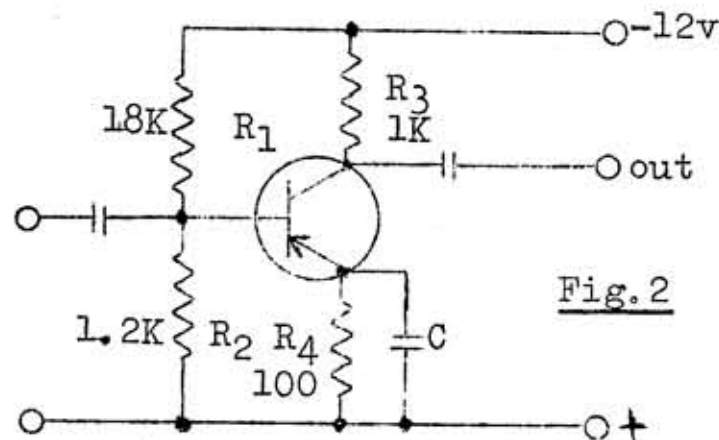

Fig. 2
3) Power. The power actually dissipated by the stipulated transistor can ordinarily be found or estimated from circuit values. A substitute should be able to carry this power with perhaps a safety factor of 2 (or more! Have you ever tried to put 15W on an AD140 using nominal heat sinks?). Operating power may usually be roughly estimated in an RC coupled amplifier stage by supposing on the average, that the transistor has across it half the supply voltage; then the current can be deduced from the voltage across the collector load, (ref. Fig.2.). Where this would not apply, such as with a transformer winding in the collector circuit, the base bias may be estimated from the potential divider producing it, and the emitter potential assumed to be a certain constant voltage below this; this base-emitter voltage is characteristic of the junction, and is (for small transistors) about 0.2V for germanium, 0.5V for silicon. When the emitter potential is known, the emitter current is deduced from the emitter resistor by ohm's law. These steps will be considered in detail below.
5) Bias. This will be of interest if a change from Ge to Si is contemplated (or vice versa) or if transistors with different gain are used in a stage where there is very little or no resistance in the emitter to ground line. In a stage such as Fig. 2, changes are not usually necessary since the circuit is a sophisticated one, and is largely independant of transistor characteristics. The bleeder network of  $R_1$  and  $R_2$  reduces dependance on bias variations due to temperature changes, and the emitter resistor  $R_4$  provides degenerative D.C. feedback to assist the process. If  $R_4$  is not bypassed, it also gives A.C. negative feedback, and although amplifier gain is reduced, linearity and input impedance are increased, and dependance on transistor gain characteristics is minimised.
Now let us consider several examples of circuits involving these parameters. EXAMPLE A). Refer to Fig. 2. Assume that the values indicated are found in a circuit in which a substitution is desired. (The substitution may not be to